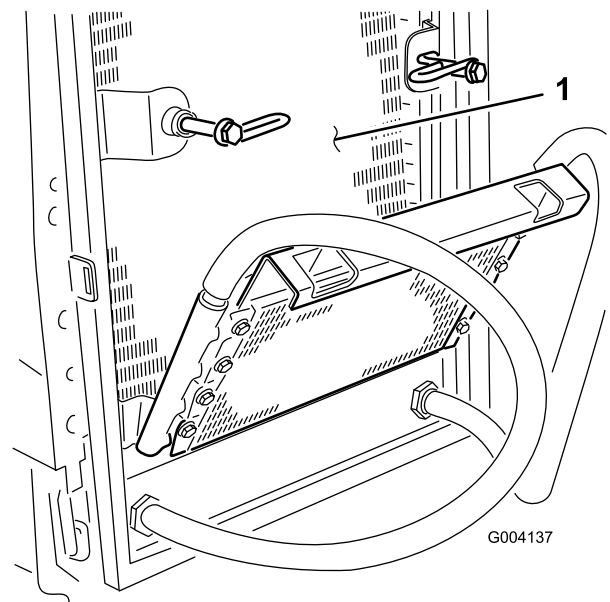

Figure 73
6. Thoroughly clean both sides of the oil cooler and the radiator (Figure 73) with compressed air.